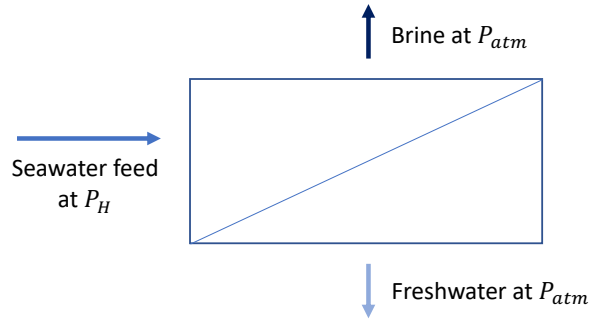

Figure 4: Schematic of the reverse osmosis process
While desalination has historically been a thermal process, the invention of Reverse Osmosis (RO) membranes in the 1960's revolutionized the process. In contrast to osmosis, RO produces fresh water by pumping the seawater to a pressure, P_H , higher than the osmotic pressure as shown in **Figure 4**. The osmotic pressure is given by the Morse equation as: